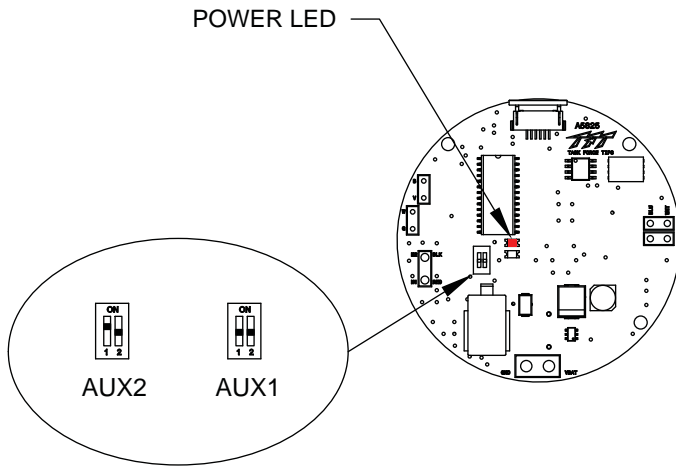

Figure 13: AUX button dip switch settings
3. Slide DIP switch #1 to desired position (see figure 13).